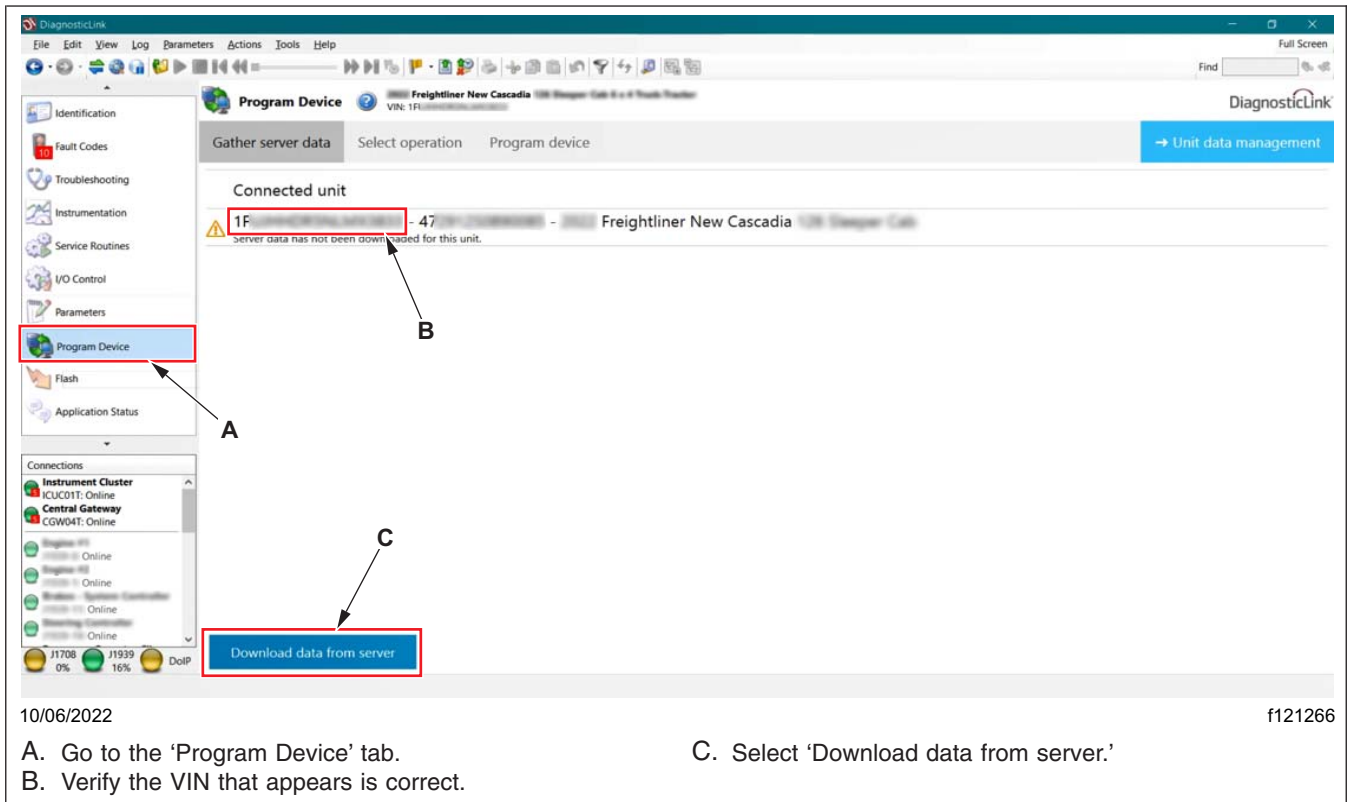

Fig. 6, Downloading the Data from the Server
17. Go to 'Program Device,' and make sure that the vehicle identification number (VIN) that appears is correct. Then select 'Download data from server.' See Fig. 6.